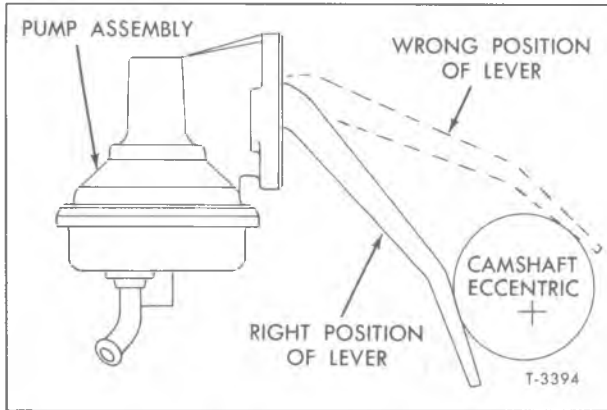

Figure 6—Positioning V6 Engine Fuel Pump for Installation
**IMPORTANT:** When installing V6 engine fuel pump (fig. 6), be sure pump lever is positioned on bottom of camshaft eccentric otherwise pump lever will be broken when engine is started.